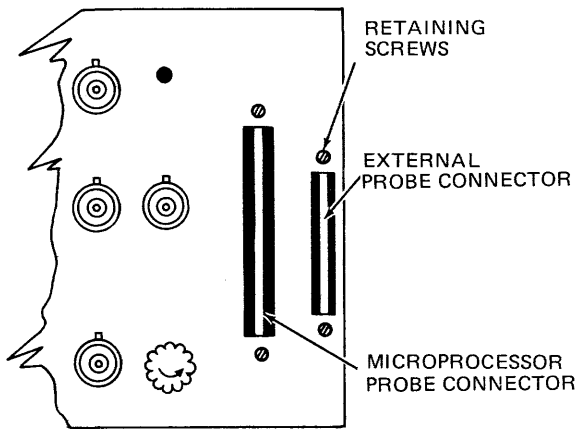

Figure 2-2. Rear-panel Probe Connectors
- b. Connect Microprocessor Probe ribbon cable to Microprocessor Probe connector on 1611A rear panel (see figure 2-2). Ensure that cable socket is fully seated on board edge connector. Red stripe on cable indicates top edge.